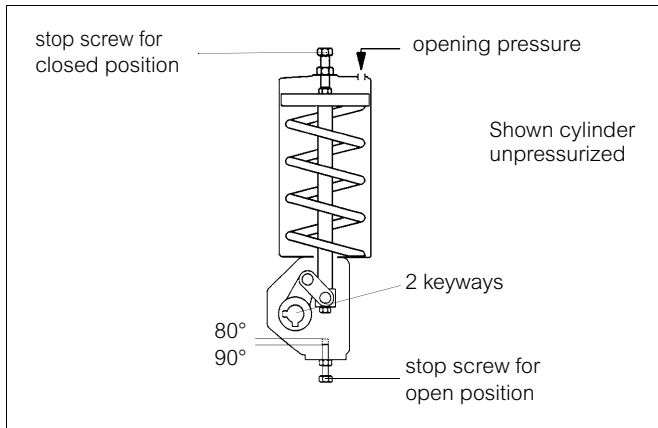

Fig. 6 B1J actuator
Install the actuator on the valve with the piston in the upper end of the cylinder and the valve in the closed position, see Fig. 6. The cylinder must be depressurized and the air ports open. Adjust the closed-position setting using the stop screw (26) at the end of the cylinder. Seal the screw thread with a non-hardening sealant, such as Loctite 225 or the equivalent. The open-position setting is adjusted with the stop screw (27) at the bottom of the housing while the actuator is pressurized and the piston is in the lower position.